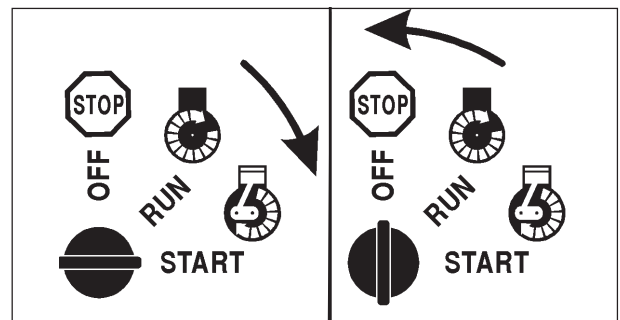

Fig. 18
6. Turn the ignition key to START position (Fig. 18) release it immediately when the engine has started (Fig. 18). Continuous cranking of more than 15 seconds per minute can cause the starter to overheat. Allow the starter to cool down two minutes after cranking of more than 15 seconds.
Lights are switched on with the switch (fig. 11, c) if the key is on position (fig. 18).